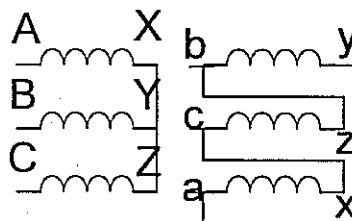

Figure Q1
- 1) a. Figure Q1 shows the winding connections of a three phase transformer. Draw the phasor diagram to show the e.m.fs in windings and determine the phase shift between primary and secondary emfs.